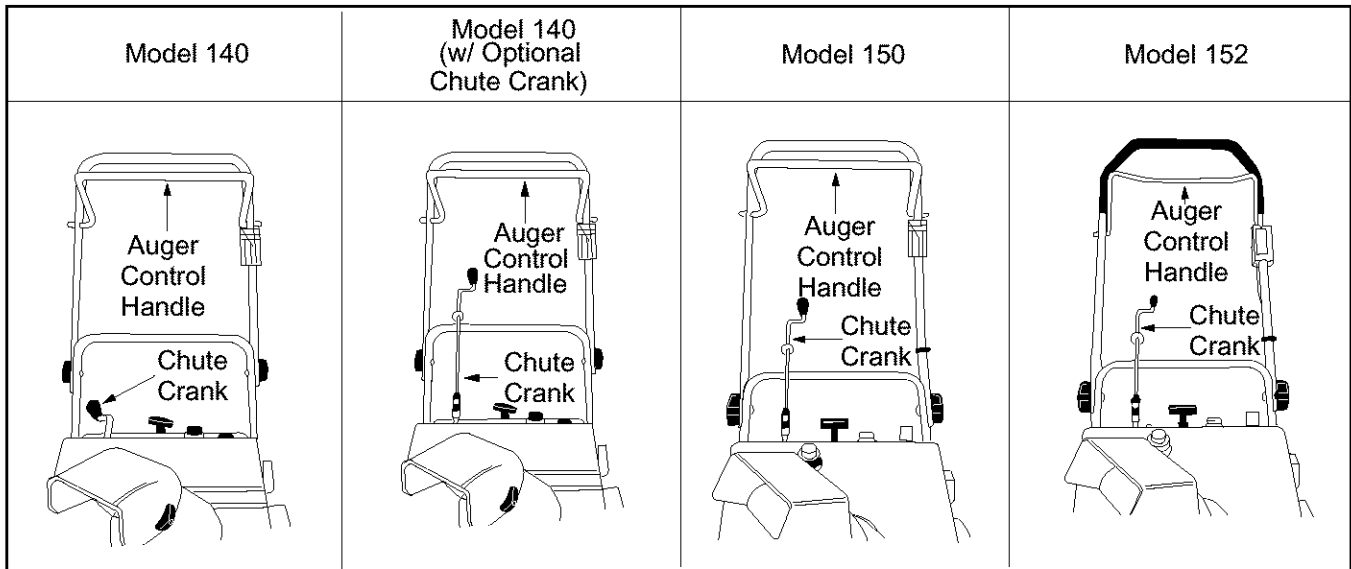

Figure 11
**Auger Control Handle** - Located on the upper handle, the auger control handle is used to engage and disengage the augers. See Figure 11. The snow thrower is designed to be propelled by the rotation of the augers. Pull the control handle back against the upper handle to engage the augers; release to disengage. See "Operating Tips" under "Operating the Snow Thrower" for more detail.
**Chute Crank** - Located on right side of dash panel. See Figure 11. The Chute Crank determines the direction snow will be discharged. Turn clockwise to discharge snow to the left. Turn counterclockwise to discharge to the right.